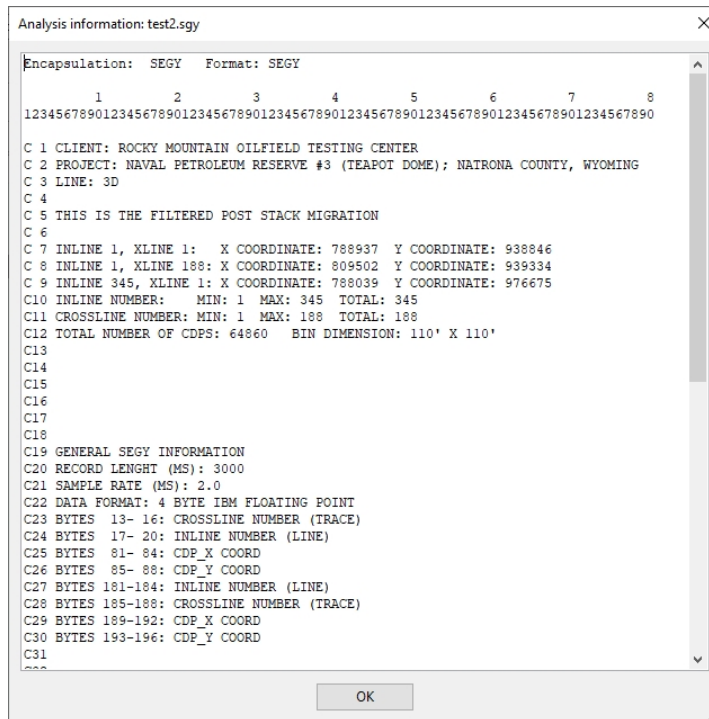

Figure 4-11 Analysis information display for a selected file
2. Click on **Analyze** to open a display window which shows the analysis information for the selected file (Figure 4-11 below). The Encapsulation and internal format of the file will also be shown at the top of the analyze window.